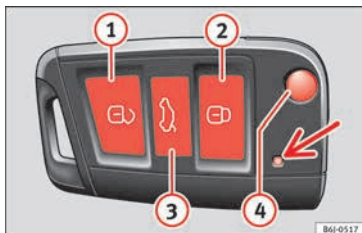

Fig. 131 Assignment of buttons on the remote control key.
By using button ④ » Fig. 131 on the control, the key shaft is released.
Unlocking the vehicle ② » Fig. 131 ①.
Locking the vehicle ① » Fig. 131 ②.
Unlocking the rear lid. Press button ③ » Fig. 131 ③ until all the turn signals on the vehicle flash briefly. When the unlocking button ③ is pressed, you have 2 minutes to open the door. Once this time has passed, it will lock again.
Moreover, the battery indicator on the key » Fig. 131 (arrow), will flash.
- Press the  button  **Fig. 131** on the remote control.